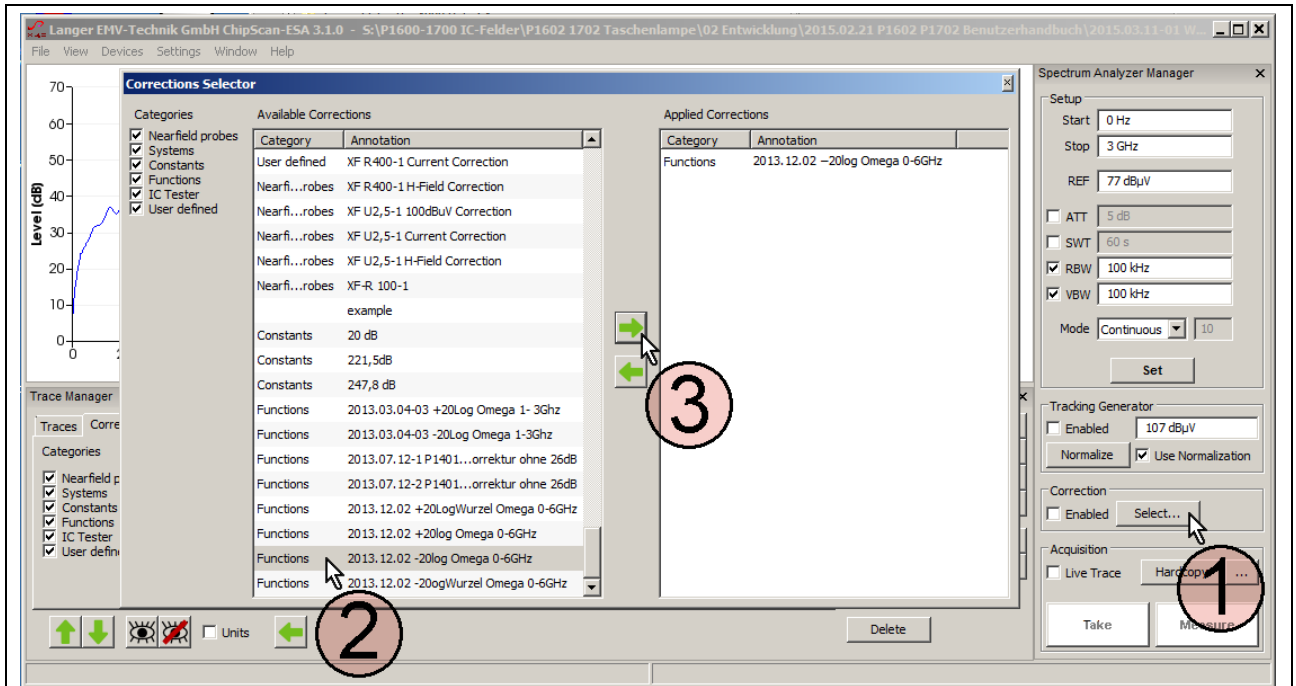
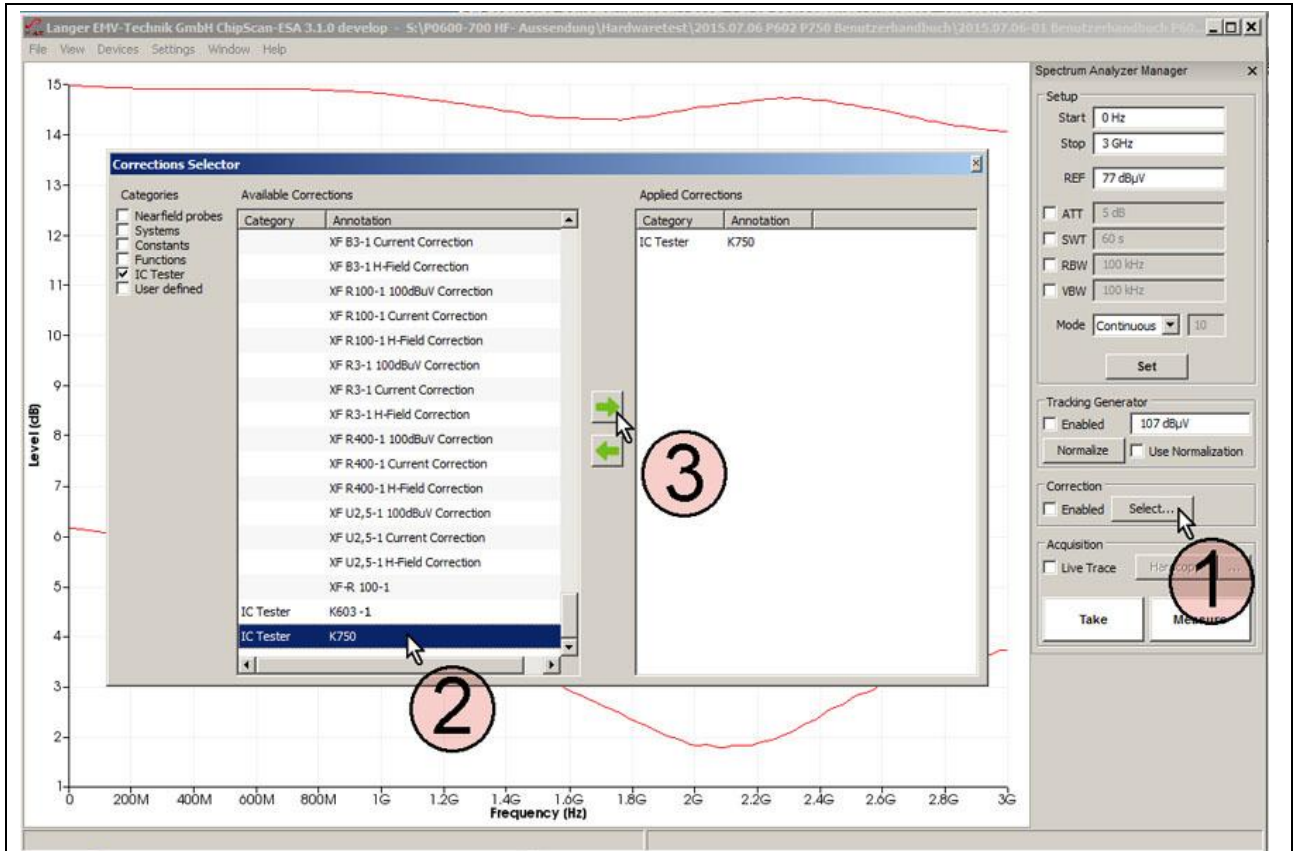

Figure 28: Using mathematical functions by activation in the "Corrections Selector".
Figure 29: Loading the correction curves K750 to the "Corrections Selector".
Mathematical functions can also be used (**Figure 28**): division by  $\omega$  in the time domain, for example. This corresponds to a subtraction of  $20 \text{ Log } \omega$  in the logarithmic form.
Click the Select button (mouse cursor ① **Figure 28**) in the Correction area of the Spectrum Analyzer Manager to select the respective correction curve.
The Corrections Selector window opens **Figure 28**. Click and activate the correction curve  $-20 \text{ Log } \omega$  with the mouse cursor ②. Click the "Arrow right" ③ button to move the correction curve to the Applied Corrections list. Other correction factors and correction curves (**Figure 29**) such as K603-1 or K750 can be loaded in the same way or selectively (**Figure 29**).